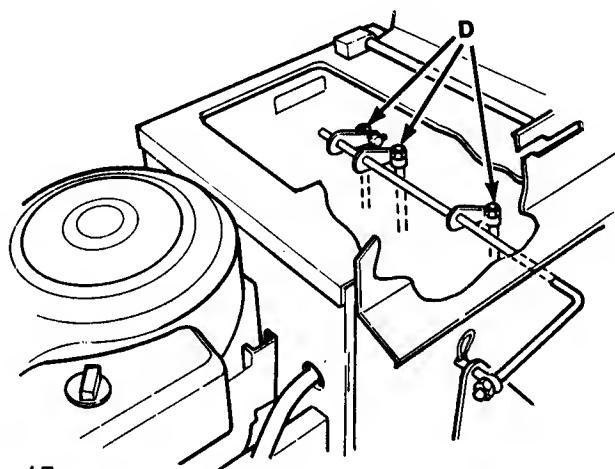
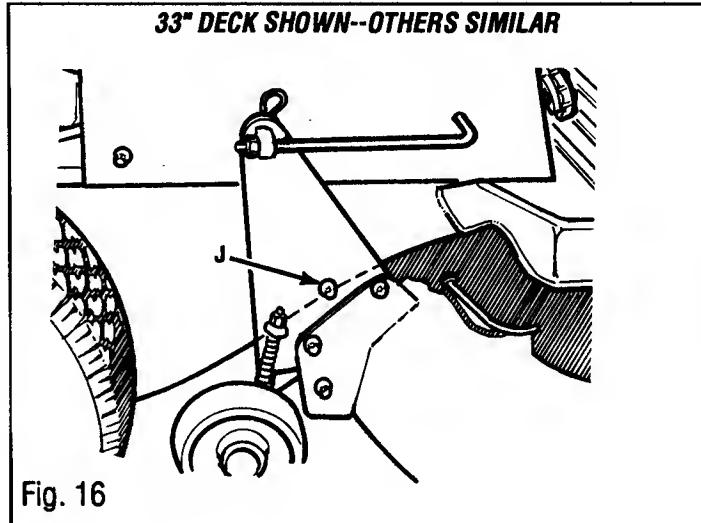

Fig. 15
Fig. 16
A 1/2" socket wrench with an extension and a universal joint is recommended for this adjustment. When mower lift lever (See page 18, Item 1) is in the raised (UP) position, there should be a gap of no more than 1/8" between shoulder bolts (J, Fig. 16) on the mower deck lifting plates and frame. If adjustment is necessary, lift seat and seat support. Remove lift rod from mower deck and push lift rod up through frame so nuts (D, Fig 15) are accessible. Turn nuts (D) with the socket wrench, re-attach mower deck, and check. Repeat as necessary.